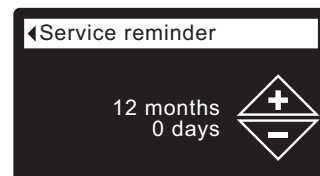

FIG. 149
7. Press the SELECT (O) button to display the Service reminder screen (See Figure 149).